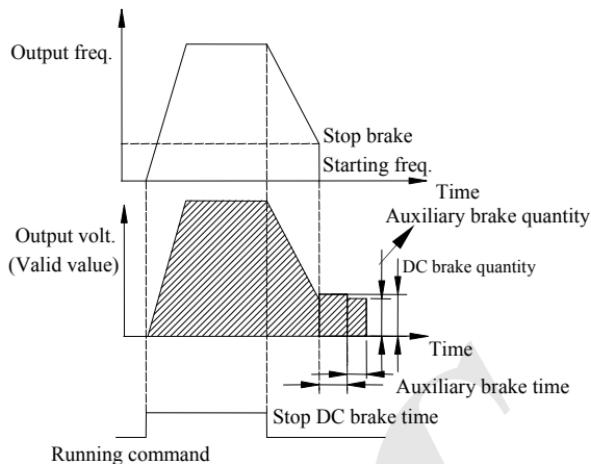

Fig. 7-5 Deceleration stop + DC braking
**2: Deceleration + DC braking stop.** After receiving stop command, the inverter reduces output frequency gradually according to the set deceleration time. When reaching F02.14 starting frequency of stop braking, After F02.15 defines DC braking waiting time, the inverter starts DC braking, as shown in Fig. 7-5.